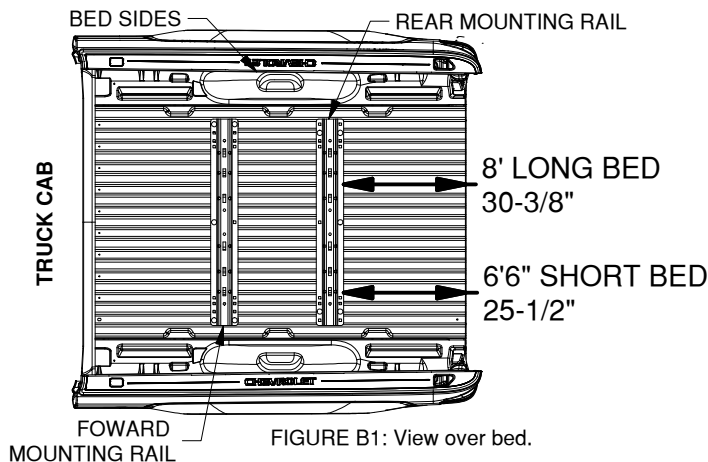

FIGURE B1: View over bed.
1. **Layout the rear mounting rail.** Place a mounting rail onto the bed of the truck. Hook a tape measure over the rear edge of the bed (not on any part of the tailgate), measure the location for the mounting rail as shown in Figure B1. Next, center the mounting rail in the bed by measuring the distance on either side from the edge of the rail to the sides of the bed. The rail will be centered when both measurements on either side of the rail are the same.